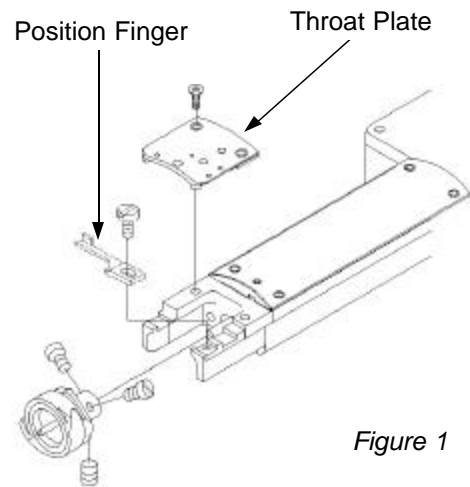

Figure 1
1. Using 2.5mm hex key, remove (2) Throat Plate screws and Throat Plate. See figure 1
3. Using a slotted screw driver, loosen Position Finger screw. See figure 1